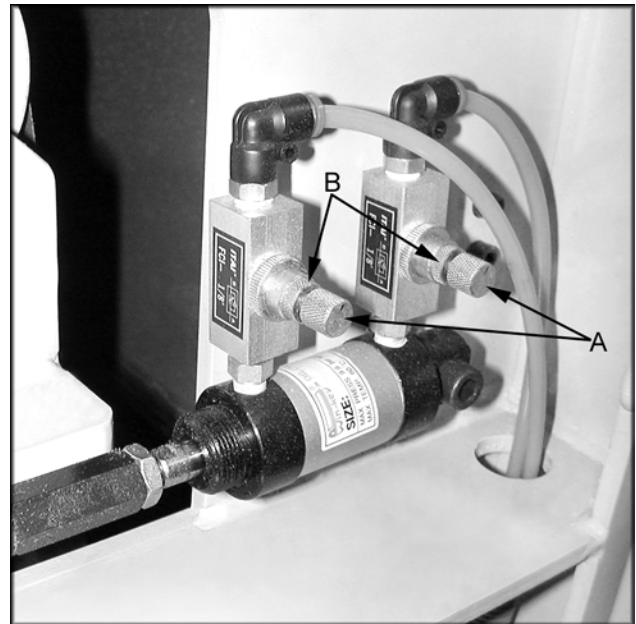

Figure 14
1. Start by opening both valves (A, Figure 14) approximately a 1/4 turn.
3. Once the belt is oscillating with the correct speed (about one complete cycle every second), lock the valves in place with the lock rings (B, Figure 14).